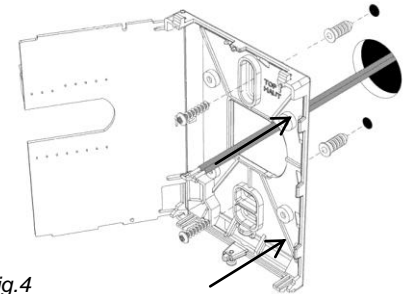

Fig.4
- 1- Swing open the repeater PCB to the left by pressing the PCB locking tabs. **(Fig. 4)**
- 7- Insert screws in mounting holes on each side of the base. **(Fig. 4)**